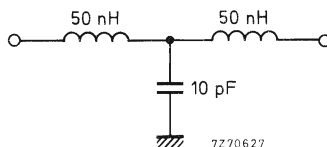

Fig. 11.
- A low-pass filter (Fig. 11) with a cut-off frequency of about 300 MHz has to be inserted between the v.h.f. aerial terminal of the tuner and the aerial terminal of the receiver.